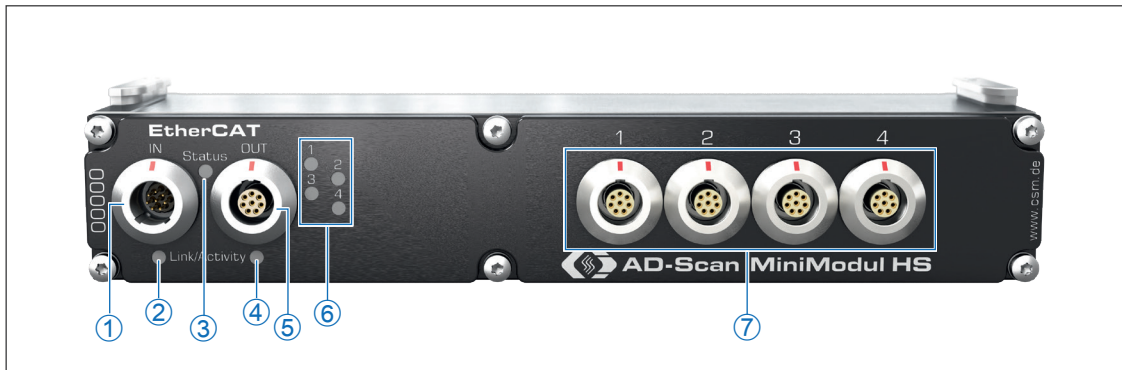

Fig. 3-1: AD4 pro IG1000, front view
² The measurement inputs of the device in Fig. 3-1 are equipped with LEMO 1B 8-pole sockets. Customer-specific solutions on request. All further technical specification of the measurement module, however, remain unaffected.
The LED indicators for the **IN** and **OUT** sockets (Fig. 3-1, ② and ④) are lit or are flashing when the AD4 pro ECAT measurement module is connected to an XCP-Gateway or another ECAT measurement module and data is being transferred.
The two-colour status LED (Fig. 3-1, ③) is lit red for a few seconds after the module is switched on and then turns off.³